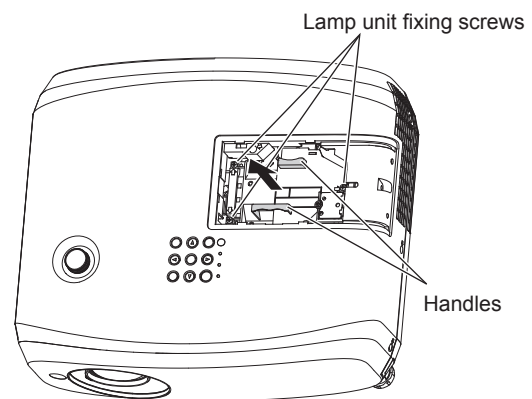

Fig. 2
- Remove the lamp unit. (Fig. 2)**